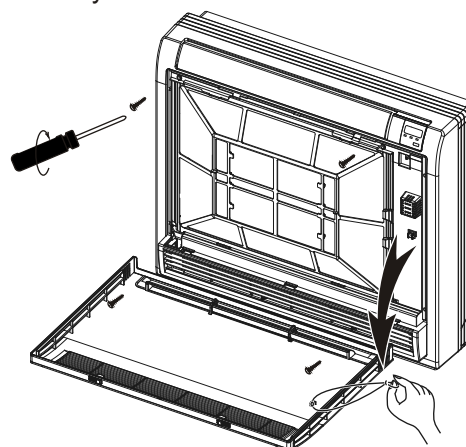

Fig.43-7
- Remove the string. (Refer to Fig.43-7).
- Remove the four screws. (Refer to Fig.43-7).